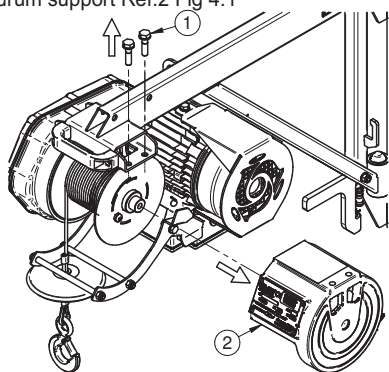

Fig. 4.1
**Warning!** - 4) Ensure that the load is securely connected to the elevator hook and also close the safety catch (ref.6 fig. 4.1).
Imer hoists are machines for professional use, which is why, in addition to the compulsory recorded quarterly inspection, the manuals stipulate that the wire rope must be replaced every year. This operation can only be carried out by authorised Imer International service centres. "If the wire rope is replaced using the Imer KIT, the replacement must be carried out in accordance with the instructions contained therein." 1) remove the drum by unscrewing the 2 screws Ref.1 Fig 4.1 and removing the drum support Ref.2 Fig 4.1